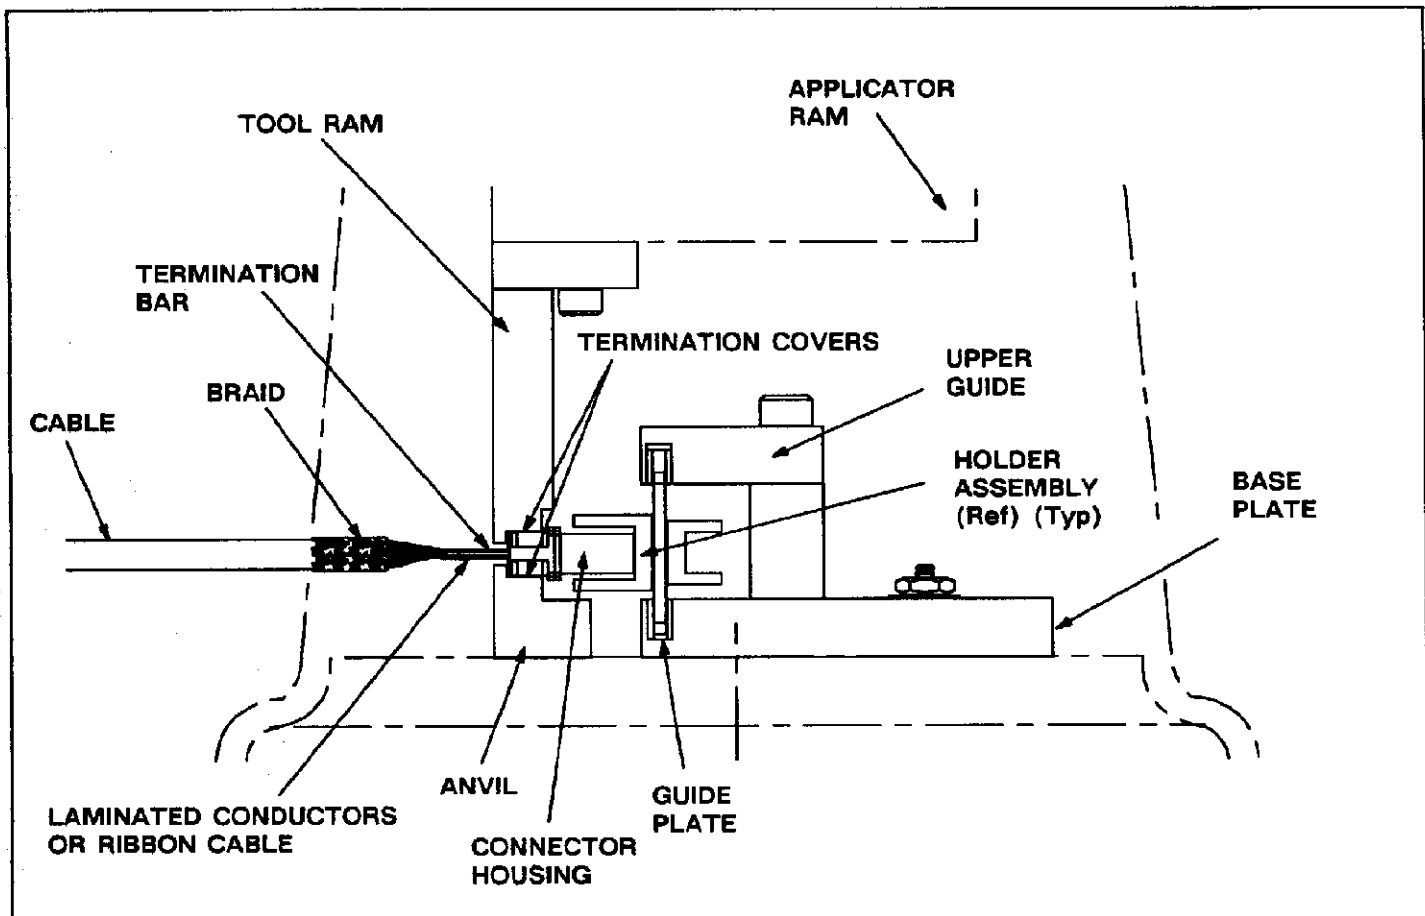

Fig. 4
7. Slide the guide plate and connector back into the upper and lower guides, allowing the termination covers of the connector to fit against the flange of the tooling ram and anvil as shown in Figure 4.